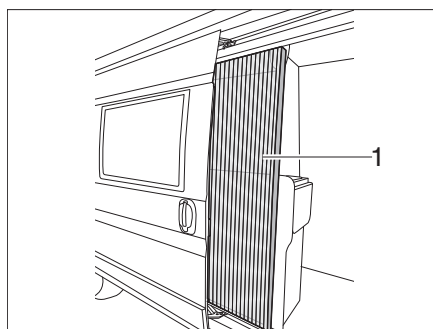

Fig. 27 Insect screen
- Closing:** ■ Pull out the insect screen completely at the strip (Fig. 27,1).
- Opening:** ■ Push the insect screen back into the starting position at the strip (Fig. 27,1).